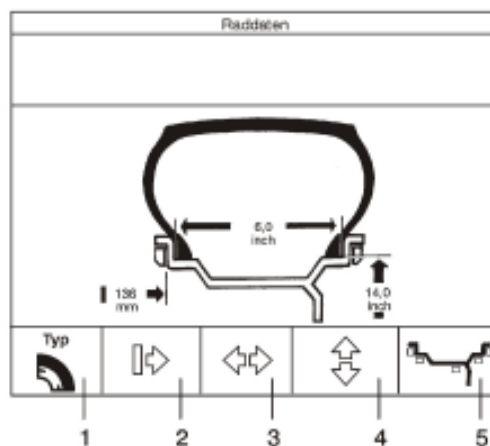

Fig. 58
The screen as in **Fig. 58** „Wheel data,, comes up.
- Press key 5 (Item 5) in the „Wheel data,, screen as in **Fig. 58**.
As the input is completed, the „Wheel data„ screen as in Fig. 58, but with the chosen balancing mode (weight fitting position) comes back.
- Press key 5 (Item 5) in the „Wheel data,, screen (Fig.58).